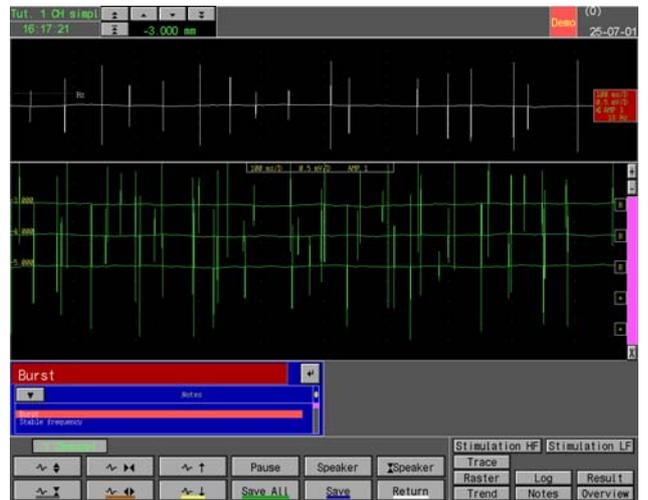

Figure 51 "Burst" Shown in the Edit Box below the Raster Window
Having selected the test, the window setup for Tutorial 1 appears, see Fig. 51 below:
- If the Notes Window is absent, display the Notes Window by clicking  in the lower-right corner of the screen, and the Notes Window appears, see Figure 51 above.
- To select a predefined note, click  situated to the left in the Notes Window to go through the notes one by one, see Figure 51 below.
- Move the pointer to the wanted note, for example "Burst": click on it to select it, and the note will be shown in the edit box just above the Notes Window, see Figure 51 above.